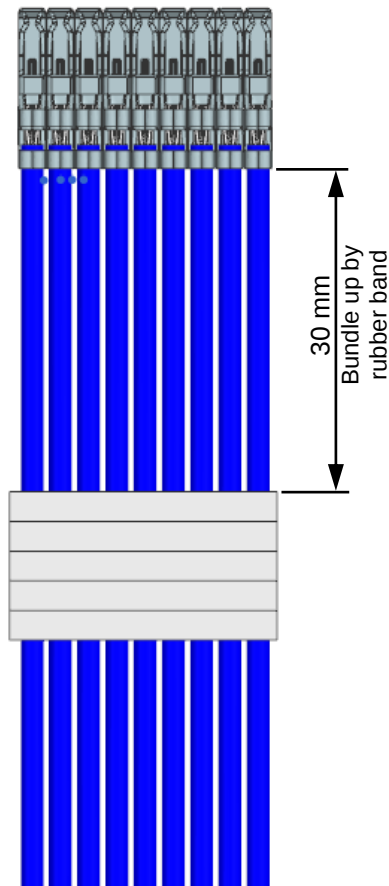

Fig.5-1
- ※ When bundling wires (**Fig.5-1**), please be careful not to apply excessive force to terminals.